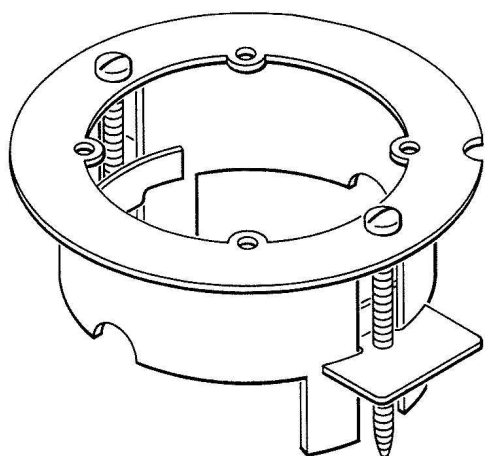

Fig. 28 — KS-19407, List 1 Bracket
3.05 The KS-19407, List 1 bracket (Fig. 28) is similar in function to the 63A bracket except that it is designed for use in existing walls